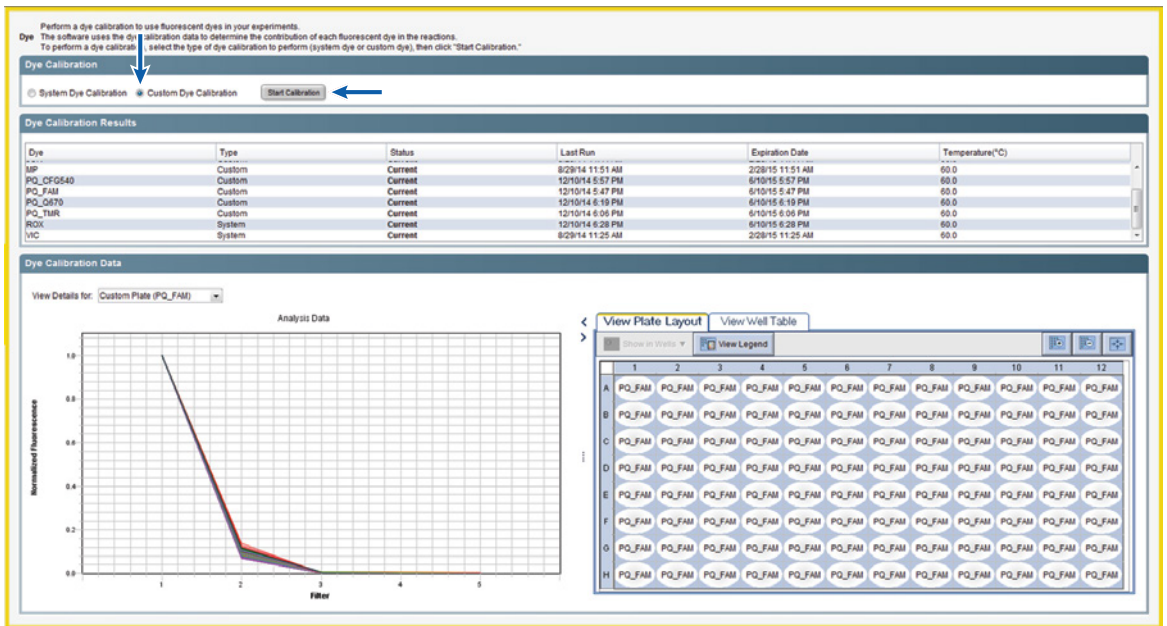

Figure 6. The Custom Dye Calibration option and Start Calibration button.
6. Choose “Custom Dye Calibration”, and select **Start Calibration** (Figure 6).
1. FAM should give highest signal in Filter 1, CFG540 should give highest signal in Filter 2, TMR should give highest signal in Filter 3 and Q670 should give highest signal in Filter 5. Figure 6 shows an example of a dye calibration spectrum (PQ_FAM) across all five filters. See Appendix 12.B for representative spectral images of all five dyes.